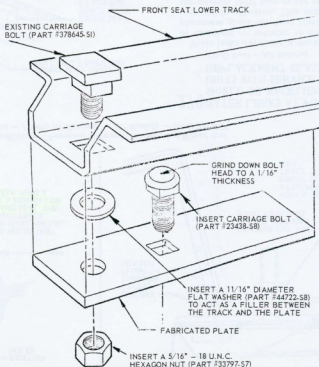

Fig. 8 - Insufficient Clearance Between the Steering Wheel and Driver's Seat - 1964 1/2-65 Mustang - All Models (Article 269)
4. Using a 5/16 in. - 18 x 1 1/4 carriage bolt (Part 23438-S8), grind off the top part of the bolt head until the thickness is 1/16 in. One bolt is required for each track. (See Fig. 8.)
5. Insert the carriage bolt (Part 23438-S8) and 11/16 in. diameter flat washer (Part 44722-S8) between the plate and the lower seat track as shown in Fig. 8. Attach one plate to each lower seat track using the existing bolt and a 5/16 - 18 hexagon nut (Part 33797-S7).